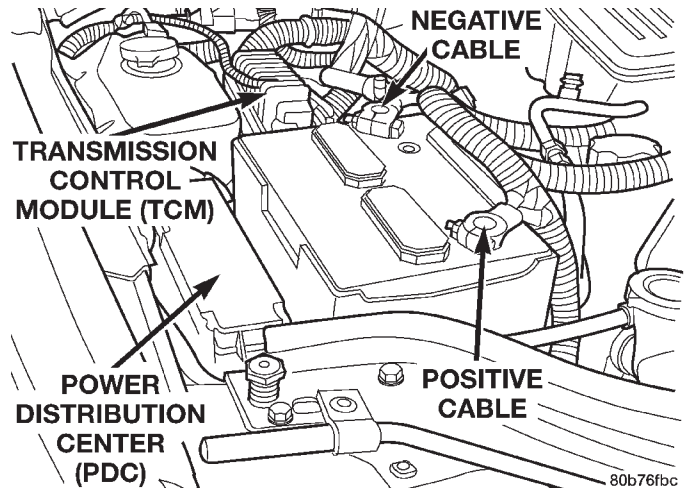

Fig. 36 Power Distribution Center (PDC)
(1) Disconnect and isolate the battery negative cable.
(2) Remove the cover from the Power Distribution Center (PDC) (Fig. 36).
(3) Refer to the label on the PDC for compressor clutch relay identification and location.
(4) Unplug the compressor clutch relay from the PDC.
(5) Install the compressor clutch relay by aligning the relay terminals with the cavities in the PDC and pushing the relay firmly into place.
(6) Install the PDC cover.
(7) Connect the battery negative cable.
(8) Test the relay operation.